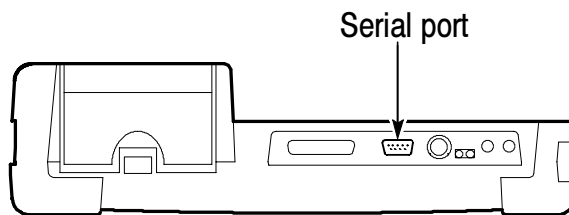

Figure 1: NetTek Analyzer serial port
- b. Connect the other end of the cable to the NetTek Analyzer serial port. See Figure 1 for the port location.